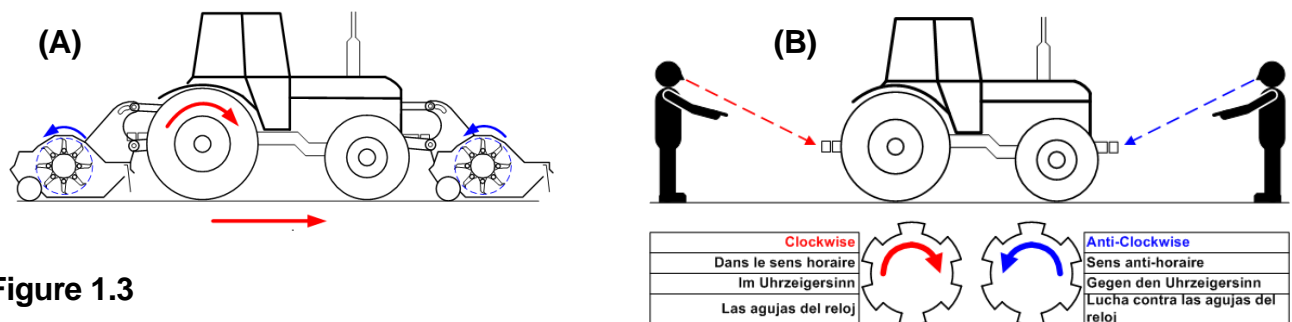

Figure 1.3
This will be defined as '**Reverse rotation**' (RR). See **Error! Reference source not found.**Figure 1.3(A).
This convention also extends to the definition of PTO drive rotation from the prime mover; see Figure 1.3(B).